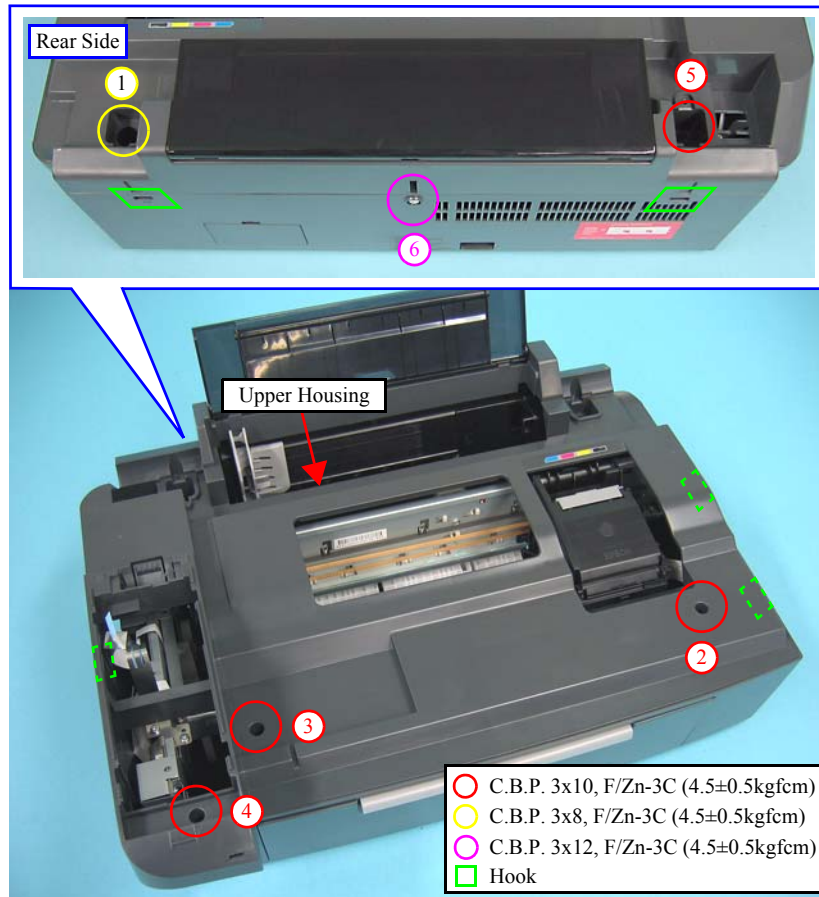

Figure 4-11. Removing the Upper Housing
- Tighten the screws in the order given in **Figure 4-11**.